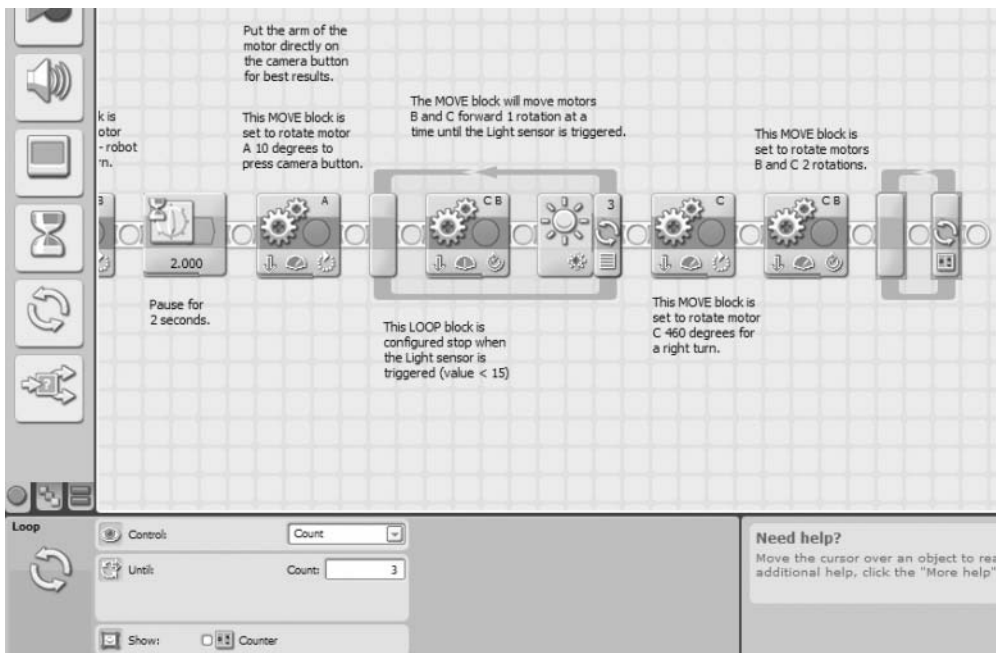
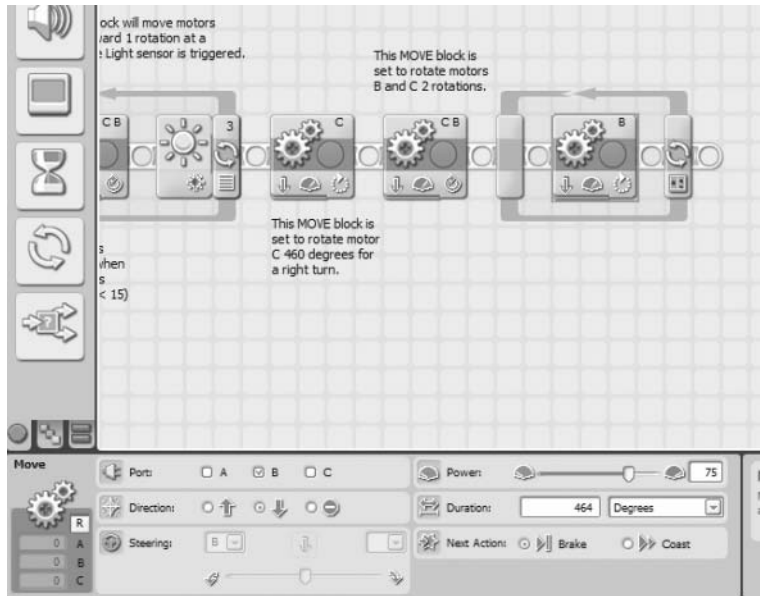

Figure 12-11. The LOOP block gets the bot around the basket.
Figure 12-12. This MOVE block turns the bot left.
If you examine the mini-map in Figure 10-4, you’ll notice that once the bot reaches Point A, it will make three left turns before heading back to its starting point. It will turn left (1) at Point A, move forward, and stop at Point B; turn left (2), move forward, and stop at Point C; turn left (3), then finally move forward, and stop at Point D. This is a perfect location to use a LOOP again. It allows us to reduce the number of programming blocks by performing the same actions three times. Those actions are “Turn Left and Move Forward a Short Distance.” So let’s place the LOOP first (see Figure 12-11).
The LOOP block in Figure 12-11 will run three times. Any blocks placed in it will also run three times before the LOOP block breaks and the program continues. What will happen three times? First, a left turn: a MOVE block will turn the bot left. Second, the bot will move forward approximately 2 or 3 feet. Back in Chapter 10, we determined that 3.5 rotations would be needed to move our bot 2 feet. Let's round that number up to 4 rotations (28 inches), which should give us plenty of room for our bot to navigate around the basket. So, you'll first place the MOVE block for a left turn (see Figure 12-12).